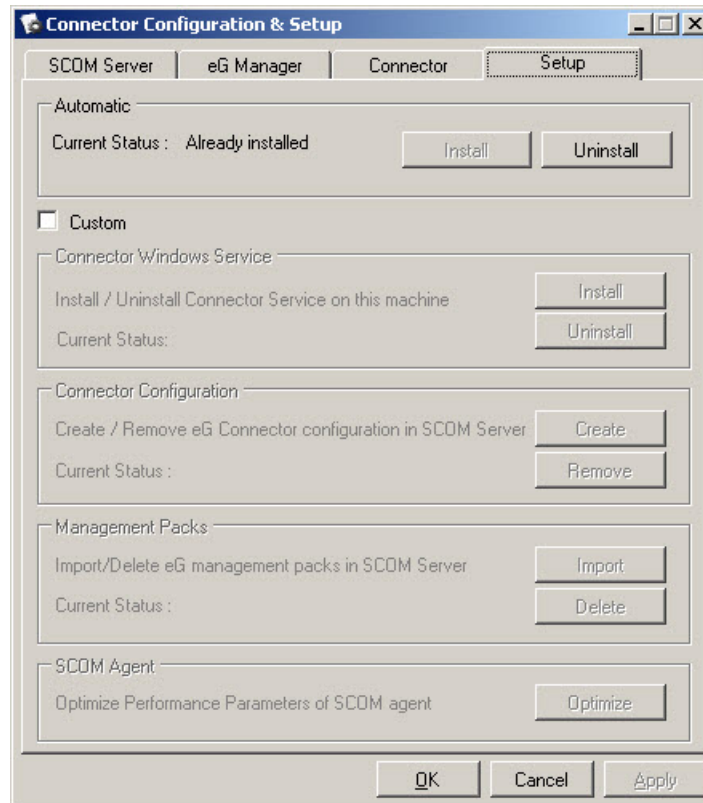

Figure 4.44: Clicking on the Setup tab page for uninstalling the connector configuration
2. When the **Connector Configuration & Setup** dialog box appears (see Figure 4.44), click on the **Setup** tab page therein.
- Click on the **Uninstall** button in the **Automatic** section of Figure 4.44. This will invoke Figure 4.45, which will list all the **Tasks** the uninstallation will perform.